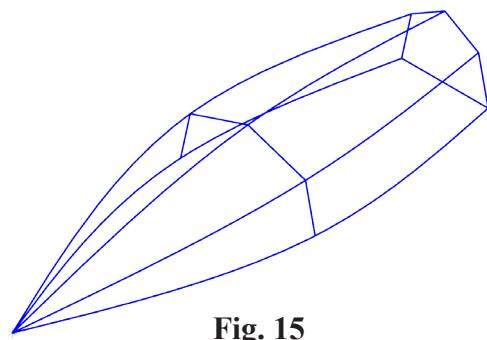

Fig. 15
Step 5. Finish with 3 spline across bottom of ribs, Fig. 15.